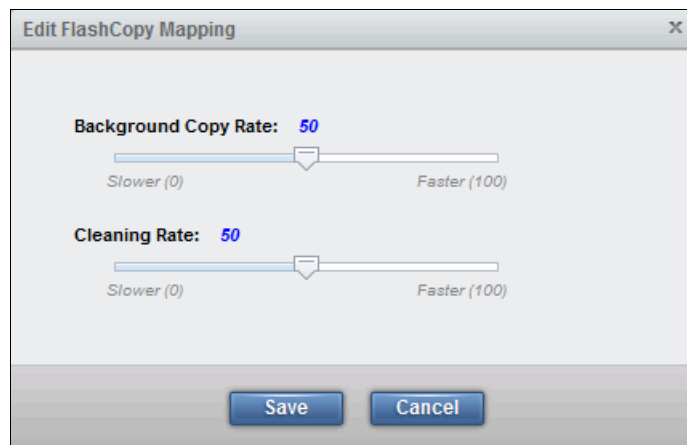

Figure 10-42 Change the copy and cleaning rate
3. You can then modify the value of the background copy rate and cleaning rate by moving the pointers on the bars, as shown in Figure 10-42.